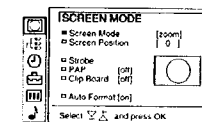

Fig. 36
- Select the symbol **[SCREEN MODE]** for »Screen Mode« with **Δ+** or **∇-** and press **OK**. The **SCREEN MODE** menu appears (See Fig. 36).